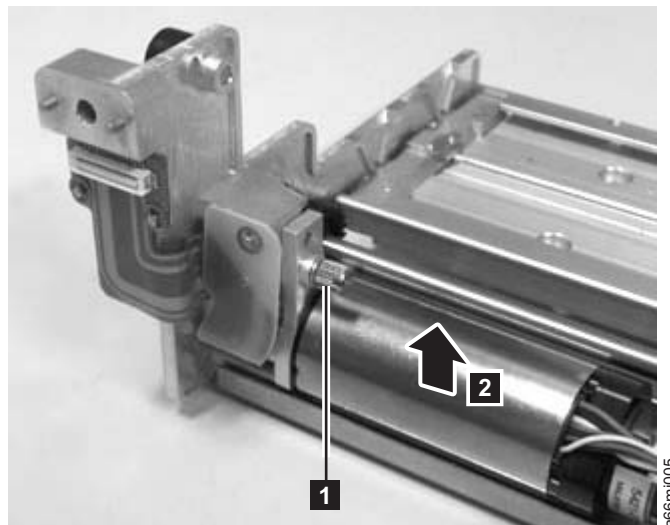

Figure 8-63. Y motor thumb screw
9. Loosen the thumb screw (**1** in Figure 8-63).
10. Tilt the Y Motor to the left and remove from the Y-axis/Picker Assembly (**2** in Figure 8-63).